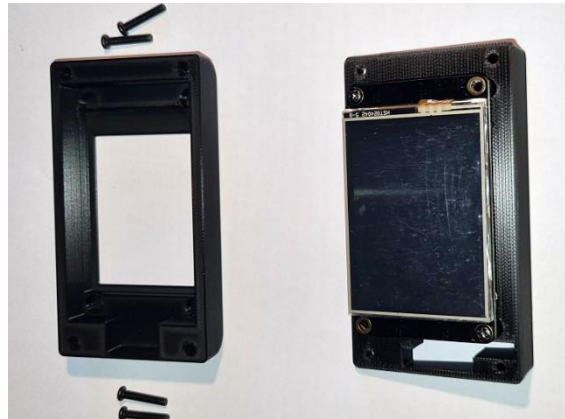

Fig. 5.1
- Remove the 4 screws and open the display case (fig. 5.1) then detach the display by removing the 2 screws.